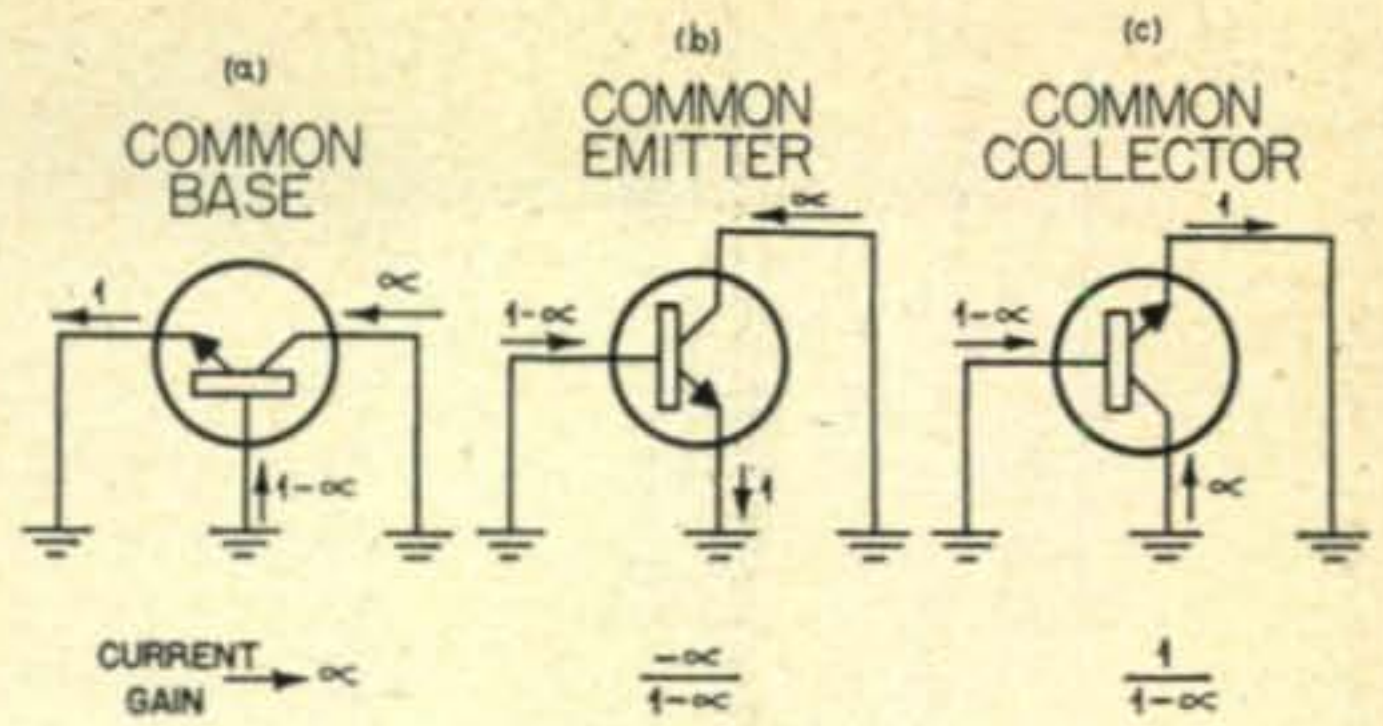

Fig. 11
emitter and (3) common collector, grounded collector. These connections are shown in Figure 11; only the currents are shown to simplify explanation of the current gains. If, in the circuits, we assume an input applied to the left and the output on the right, we can derive an expression for the current amplification of each. If the currents of emitter and collector are 1 and α respectively, obviously the base currents must be $1-\alpha$ as shown to satisfy Kirchoff's current law. Dividing the output currents by the input currents we obtain the current gains as follows: For the common base we get α , for the common emitter connection we get $\frac{-\alpha}{1-\alpha}$ and for the common collector we get $\frac{1}{1-\alpha}$.
For the grounded emitter there is 180° phase shift and the sign of the current gain expression is negative. Figure 11 shows the above examples with their respective current gain expressions.